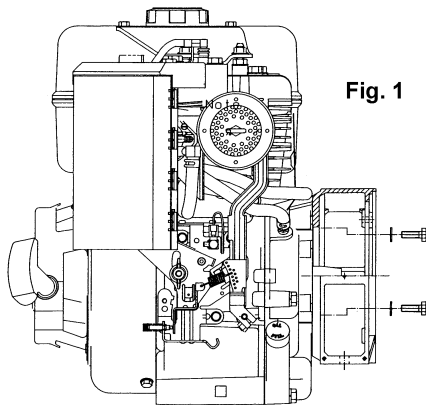

Fig. 1
-) mount the front cover on the motor, fixing it with the appropriate screws and applying a tightening torque of $48 \pm 7\%$ Nm if using M10 screws or $21 \pm 7\%$ Nm for M8 screws (figure 1)